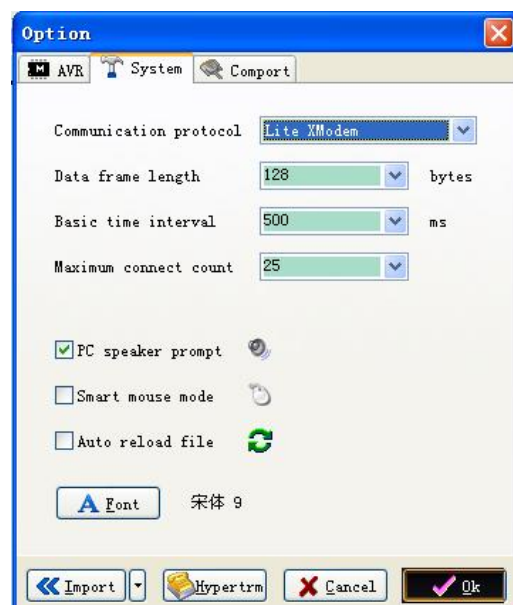

Fig. 4
- 4) Change settings on tab “System” as per Fig. 4. Communications protocol should be set to “Lite XModem”. Increase “Maximum connection count” to 50 or 100. This will make connection easier.